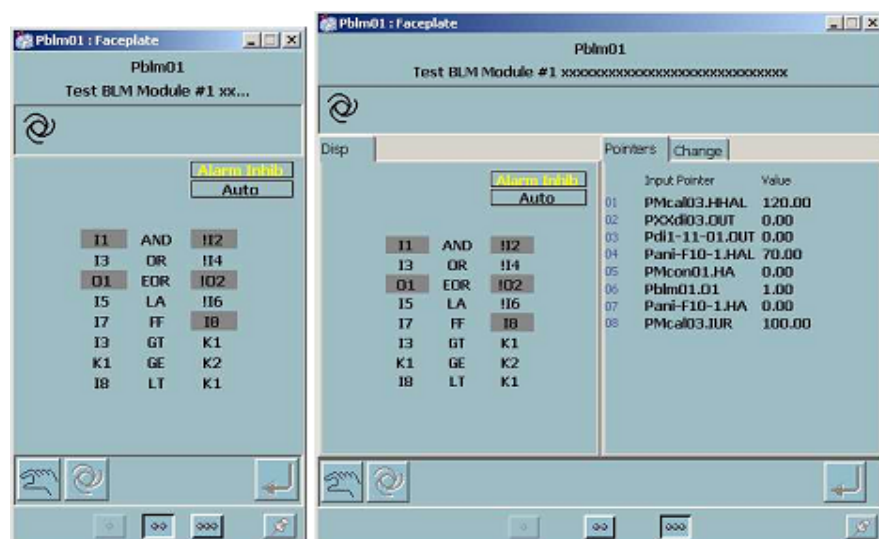

Figure 186. BLM Module
**Boolean Logic Module (BLM).** The Boolean Logic Module faceplate represents a Boolean logic function block in an 800xA for DCI controller. The BLM module provides up to 8 Boolean operations. Each operation can take inputs from field signals or from internal module results and generate output results for use by other operations in the same or different BLM or by other Controlware modules. A BLM tag is required to both monitor and change the outputs provided by the module from the operator workspace. The BLM module reports the current input and output states of each operation, the operation type, override values, input pointers and their values, mode, alarm status, and quality used for display in the faceplate. Figure 186 shows the layout of the BLM normal and extended sized faceplates and its attributes.